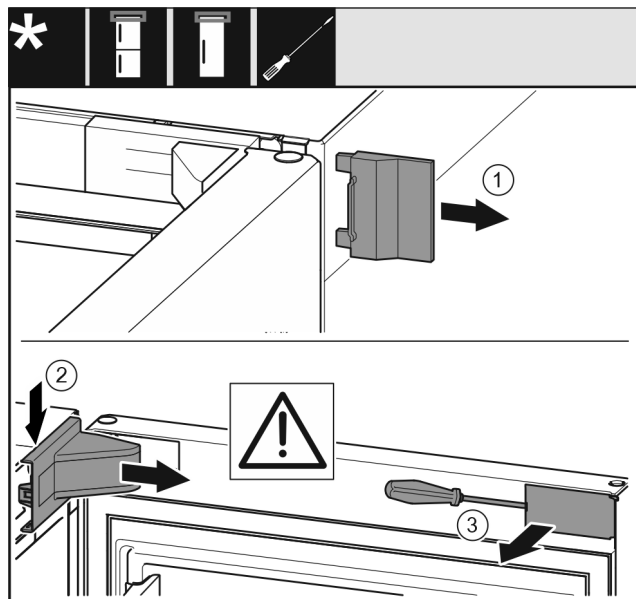

Fig. 7
- Remove the outer cover. Fig. 7 (1)
- Disengage and release the bearing bracket cover. Remove the bearing bracket cover. Fig. 7 (2)
- Unlatch the panel with a slotted screwdriver and swivel it to one side. Fig. 7 (3)